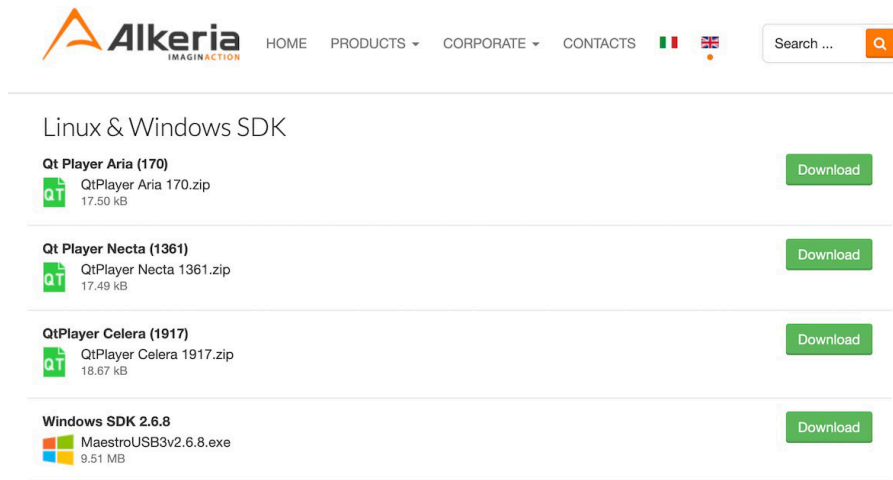

Figure 1.7: Example of file listing inside Linux & Windows SDK category
Step 5: Click on “Download” to download a file (fig. 1.7)